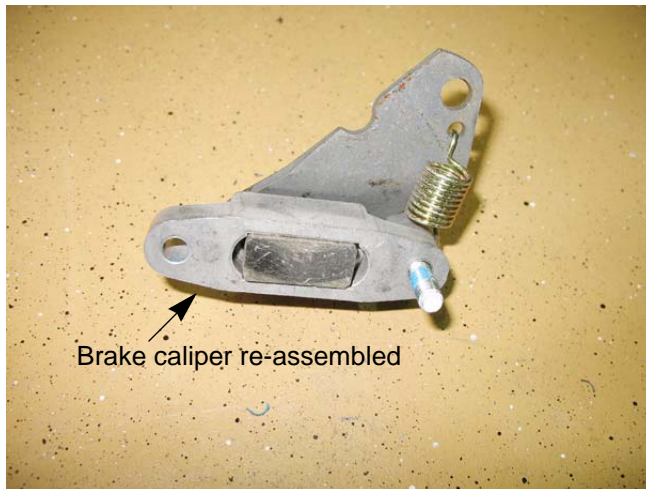

Figure 3.10
13. Place a new puck into the caliper. See Figure 3.10.